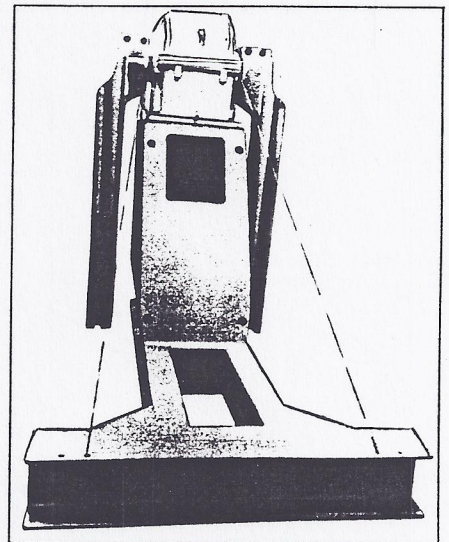

Figure 4
- c. Using a steel tape measure, measure the left and right distances between main shaft and front mounting holes of samson post. The distances must be the same for the left and right sides. Shift gear reducer accordingly if required. See illustration in Figure 4.